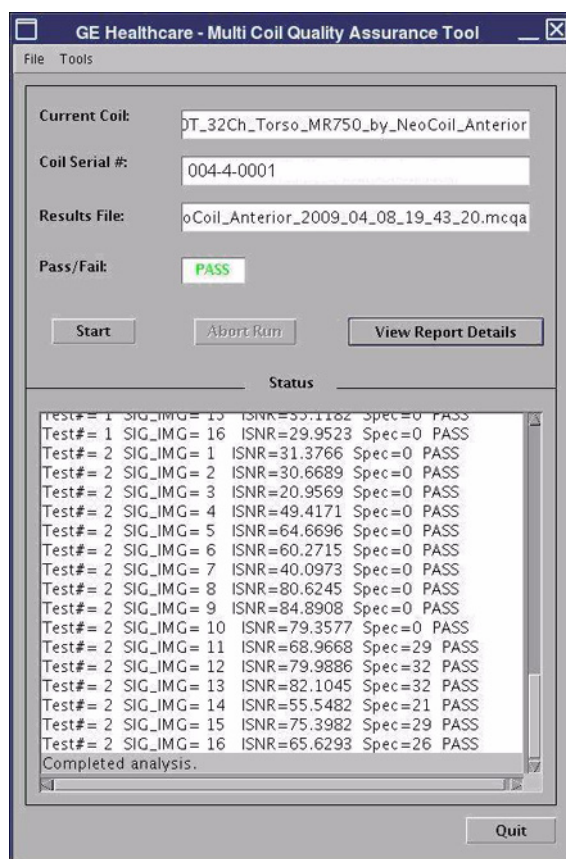

Figure 4-6 MCQA tool displaying the test result for the anterior coil
6. When the test is completed, results are displayed (see Figure 4-6). The results window shows the integrated Signal-to-Noise Ratio (SNR) as a function of the receive channel number. The PASS/FAIL status should show PASS if all coil elements are functioning properly.